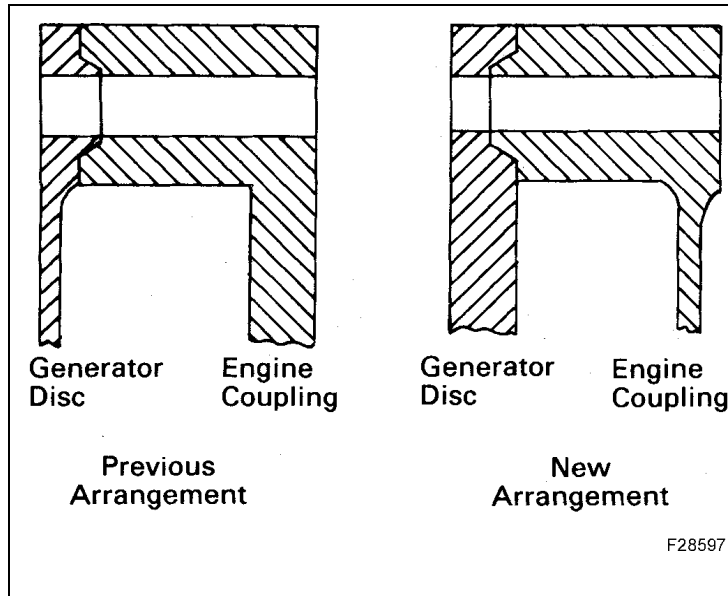

Figure 40 Engine/Generator Coupling Arrangement
3. The new coupling arrangement uses an engine coupling with a thin cross-section, and a generator coupling disc with a thick cross-section, rather than the thick engine coupling/thin generator coupling disc arrangement. The mating surfaces of the new arrangement are designed to prevent misapplication. Refer to Figure 40.